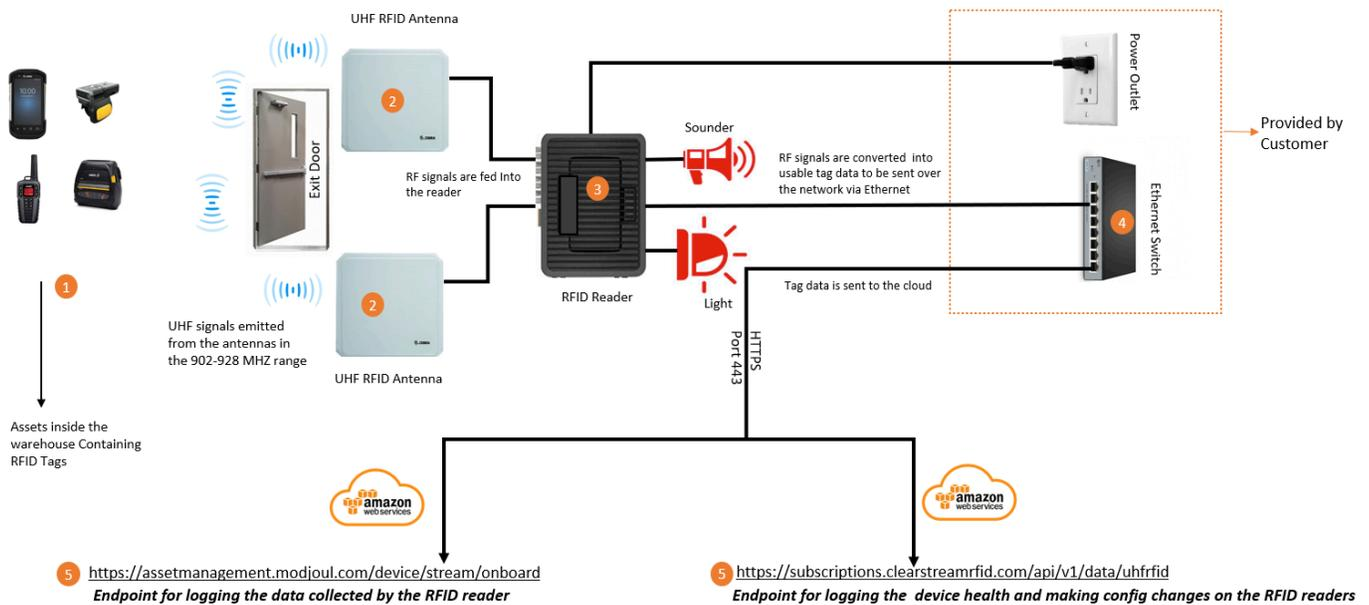

Figure 4. Flow chart of the Modjoul short messaging service (SMS)
5. The system can also notify additional onsite leadership in real time when an asset is detected at a Watchdog. (**Figure 4** is a schematic of the flow of data for WIMS alerts.)